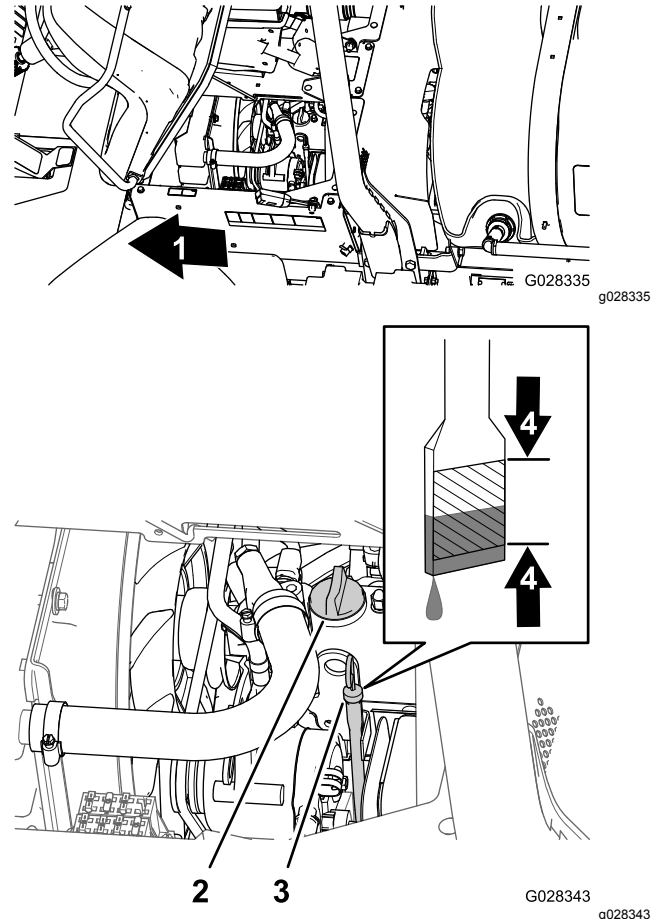

Figure 68
- Remove the dipstick, located under the passenger seat, and wipe it with a clean rag (Figure 68).
- If the oil level is low, remove the filler cap from the valve cover (Figure 68) and pour oil into the filler neck until the oil level is up to the Full mark on the dipstick.
- Install the oil-filler cap (Figure 68).
- Install the dipstick firmly in place (Figure 68).